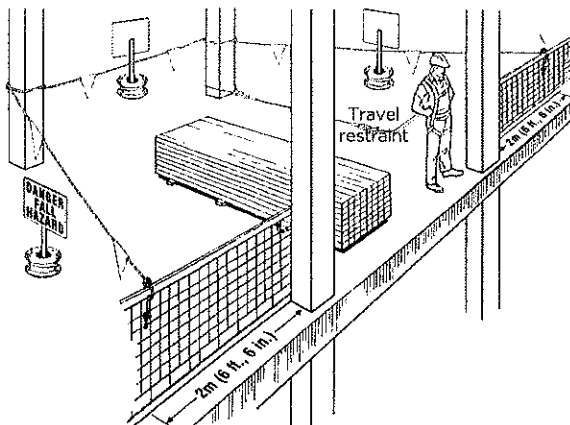

Figure 25-4: Wear Personal Fall Protection When Removing Guardrails
- When guardrails must be removed to land, unload, or handle material, wear fall arrest equipment (Figure 25-4). The area must also be roped off with warning signs posted.